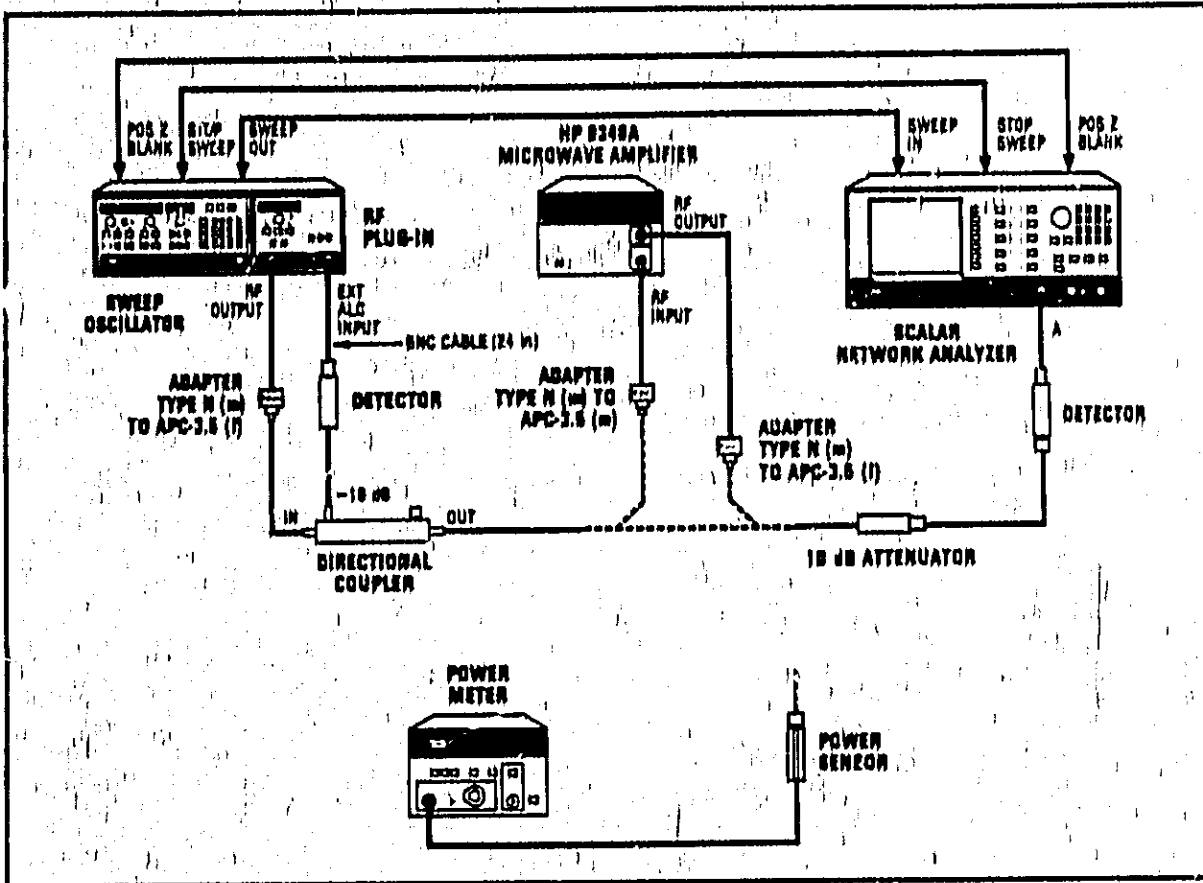

Figure 4-1. Small Signal Gain Test Setup
1. Connect the equipment as shown in Figure 4-1 with the coupler output connected to the 10 dB attenuator.
17. Reconnect the network analyzer to the output of the coupler as shown in Figure 4-1.
29. Reconnect the network analyzer to the output of the coupler as shown in Figure 4-1.